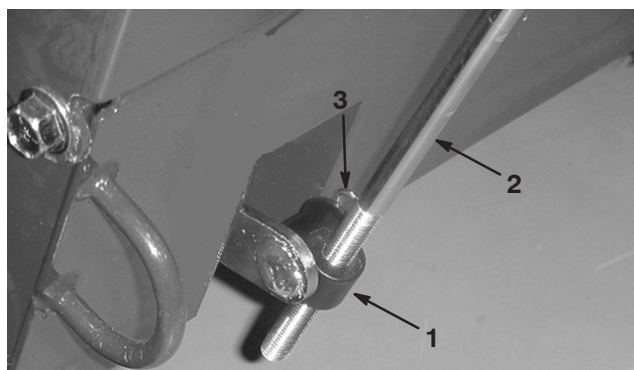

Figure 5
6. Insert the rod fitting onto the shifter bell crank shaft and secure with a washer and a hairpin cotter (Fig. 5).